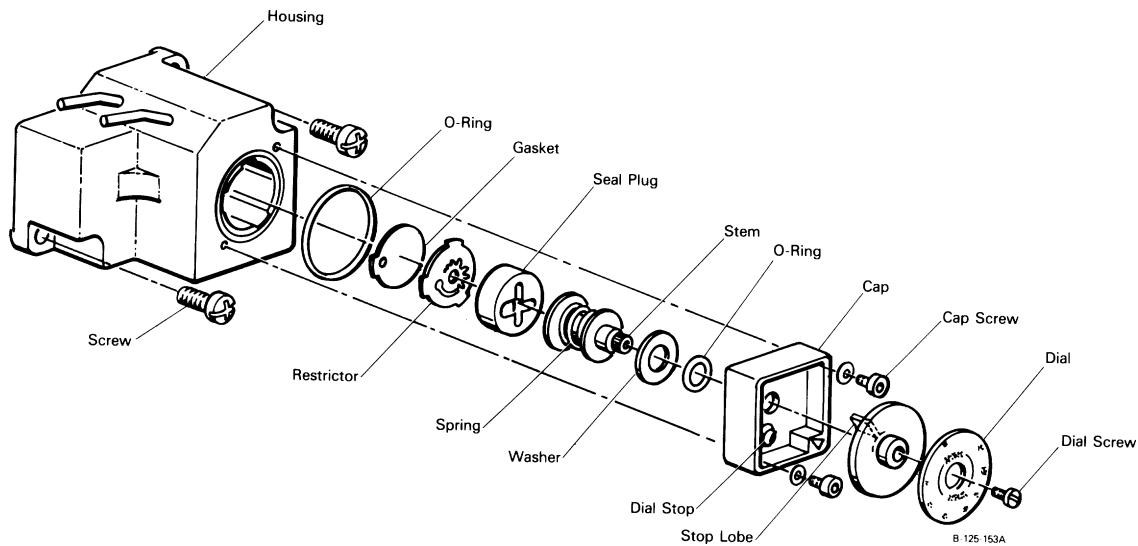

Figure 37. Exploded View of Reset and PRE-ACT Unit
1. Remove dial, Figure 37, then remove cap. Loosen cap screws uniformly until spring load against cap is relieved.
6. Place washer and cap on spring. Be sure O-ring is in place and cap is oriented as shown in Figure 37. Before tightening cap screws, turn spring stem so that smooth section on stem faces away from dial stop; exact location is not important. Tighten cap screws uniformly to compress spring.